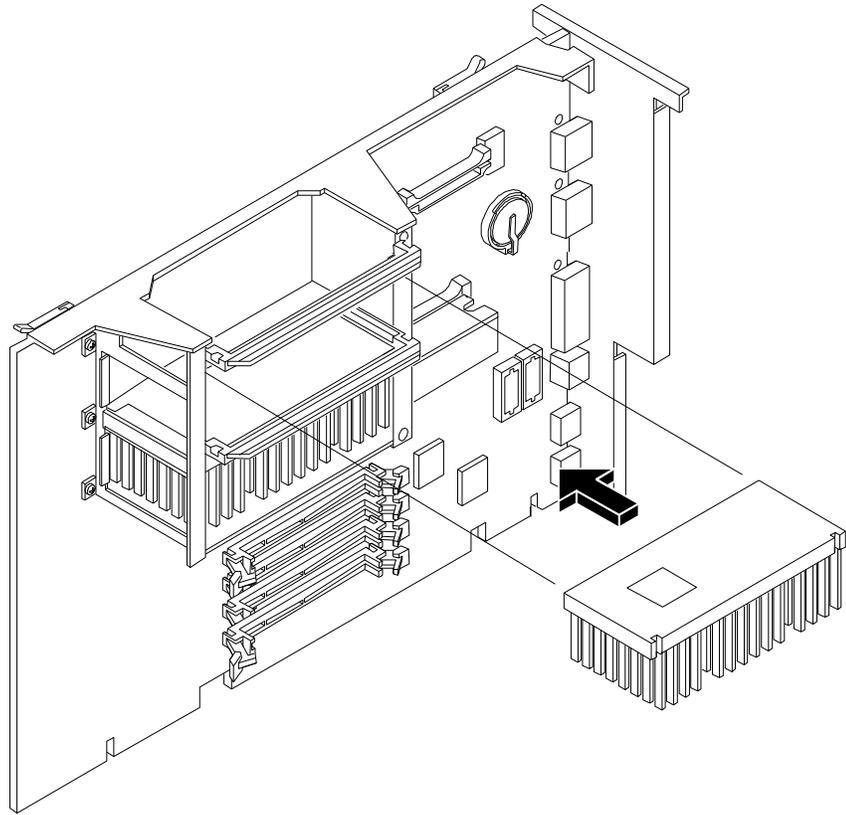

Figure 1-12. Installing a New Processor Module
1. Orient the new processor module as shown in Figure 1-12.